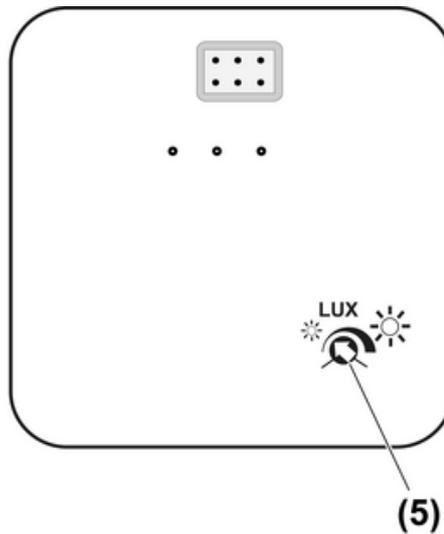

Figure 2: Back of cover: Adjuster for brightness threshold
The brightness threshold can be adjusted within a range of approx. 5,000 Lux "small sun" to approx 80,000 Lux "large sun" using the adjuster (5) on the back of the cover (Figure 2). The adjuster is preset to approx. 15,000 Lux at the factory.